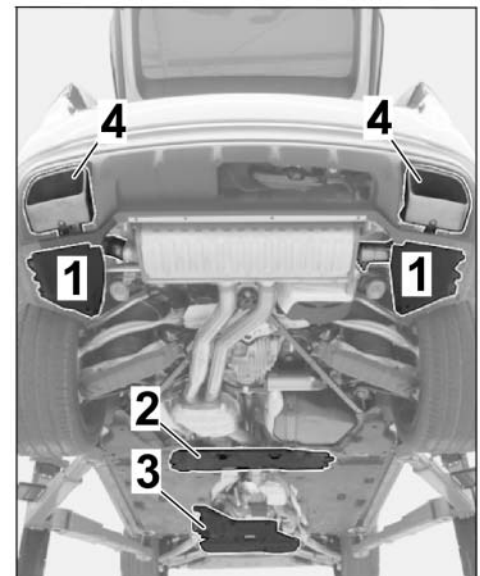

Figure 10
- 1.5.1 Remove rear underbody cover and rear tunnel cover (⇒ *Figure 10 -1 and 2-*). ⇒ *Workshop Manual '519419 Remove and install rear underbody cover'*
- 1.5.2 Remove front underbody cover (rear section) (⇒ *Figure 10 -3-*). ⇒ *Workshop Manual '51921900 Remove and install front underbody cover'*
- 1.5.3 Remove tailpipe (left / right) (⇒ *Figure 10 -4-*). ⇒ *Workshop Manual '263419 Remove and install tailpipe - T9I'*